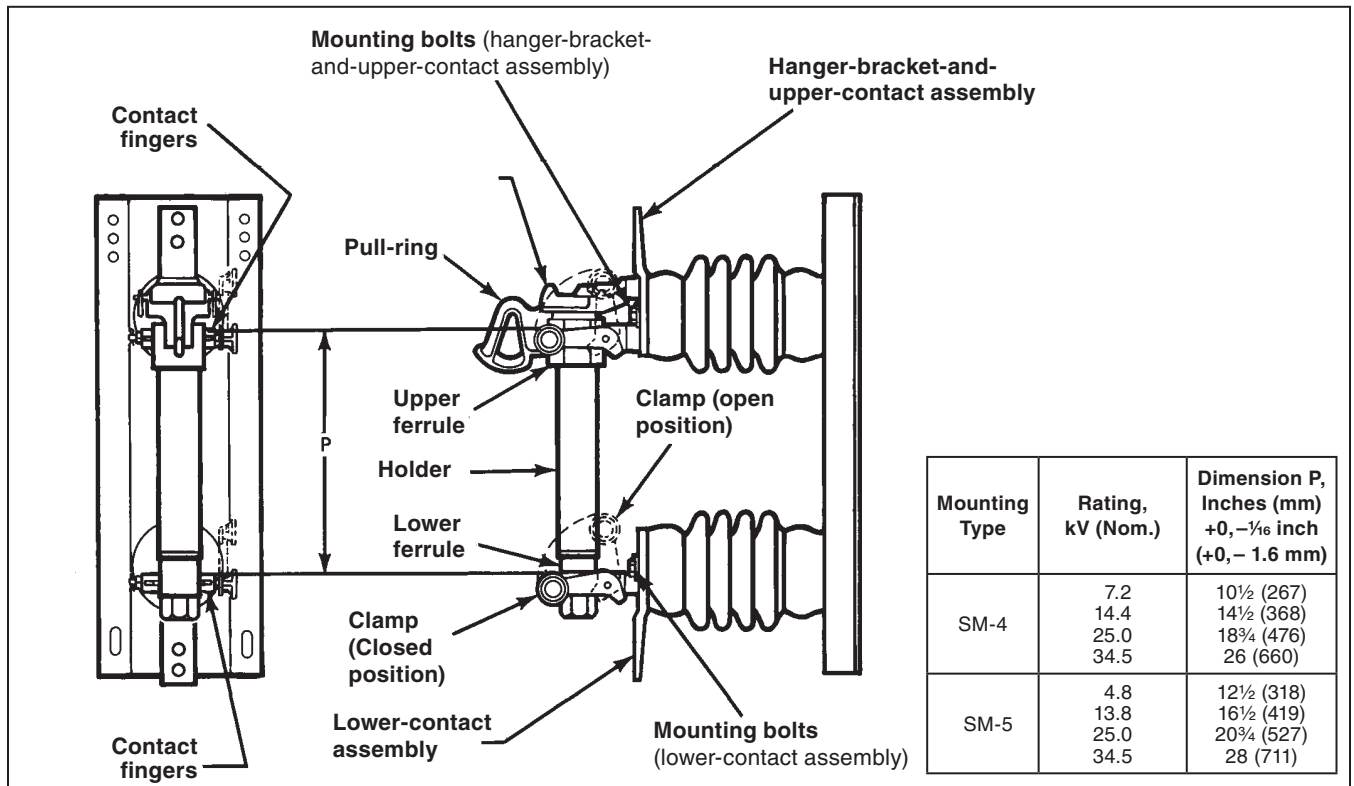

Figure 2. Live-part spacing for S&C Type SM-4 and SM-5 Power Fuses, Non-Disconnect Vertical and Non-Disconnect Upright Styles.
STEP 1. Accurately measure the distance between the contact fingers of the hanger-bracket-and-upper-contact assembly and the corresponding contact fingers of the lower contact assembly. See Figure 2 on page 9. Make sure this dimension is within the distance tolerance established for Dimension P. If adjustment is necessary, loosen the hanger-bracket-and-upper-contact assembly mounting bolts and move the assembly toward or away from the lower contact assembly as required to bring the distance within the specified Dimension P limits. Make sure the Dimension P distance is maintained between the upper and lower contact fingers on both sides of the fuse mounting. Fully tighten the hanger-bracket-and-upper-contact assembly mounting bolts.